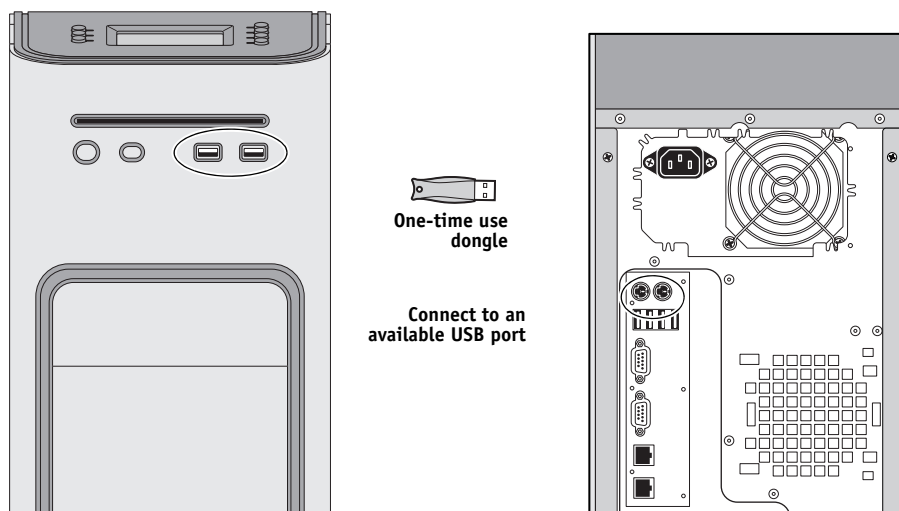

FIGURE 21: Connecting the one-time use dongle
- Connect the one-time use dongle (see Figure 21 on page 68).